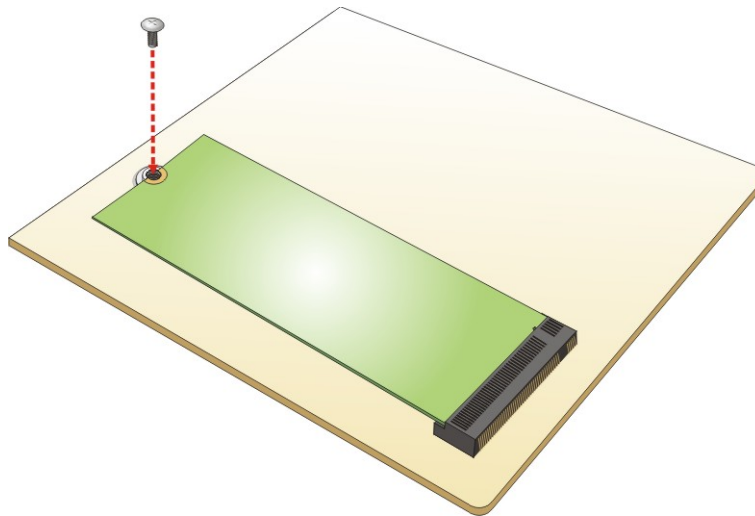

Figure 3-4: Securing the SSD
Step 4: Push the SSD down and secure it with the previously removed retention screw (**Figure 3-4**).